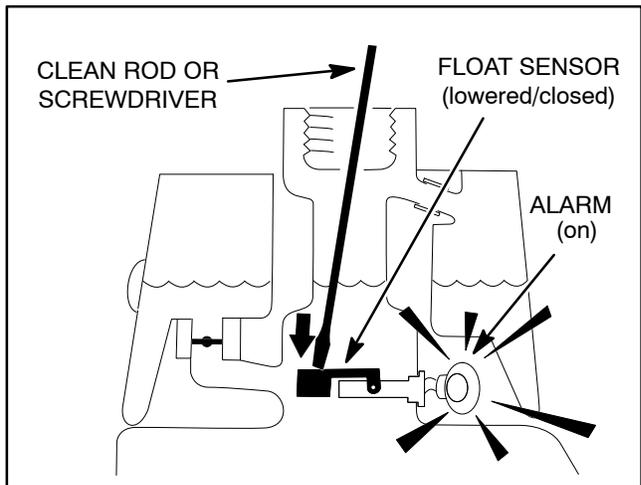

Figure 33
1. If the float sensor is connected to the main harness, remove hydraulic tank cap and screen from filler neck of hydraulic tank. Turn ignition switch to the RUN position (do not start the engine). Insert a clean rod or screw driver into filler neck and gently push down on sensor float (Fig. 33). Alarm should sound after a one (1) second time delay.